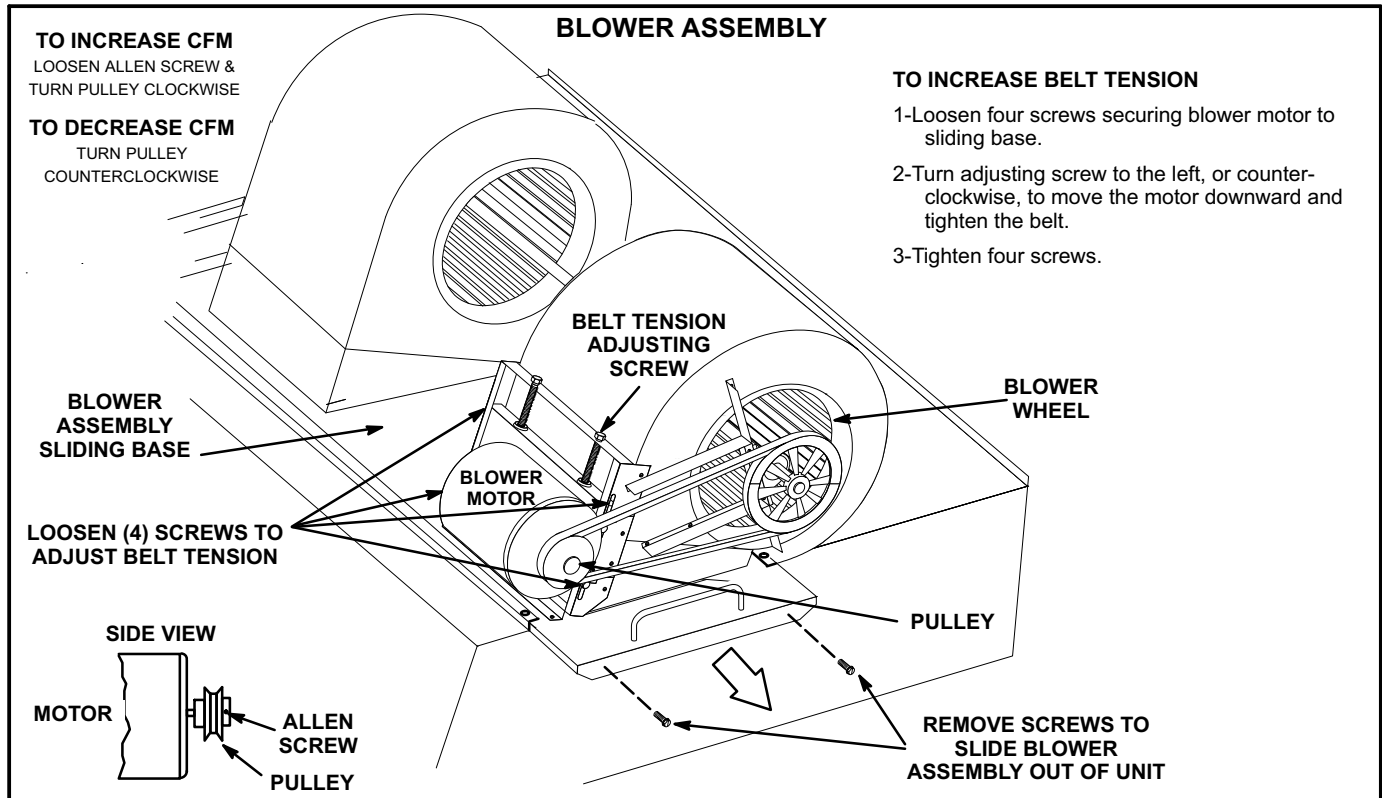

FIGURE 8
The blower assembly is secured to a sliding base which allows the entire assembly to be pulled out of the unit. See figure 8.
- 4- The blower RPM can be adjusted at the motor pulley. Loosen Allen screw and turn adjustable pulley clockwise to increase RPM. Turn counterclockwise to decrease RPM. See figure 8. Tighten Allen screw after adjusting. Do not exceed minimum and maximum number of pulley turns as shown in table 2.
1- Loosen four bolts securing motor base to mounting frame. See figure 8.